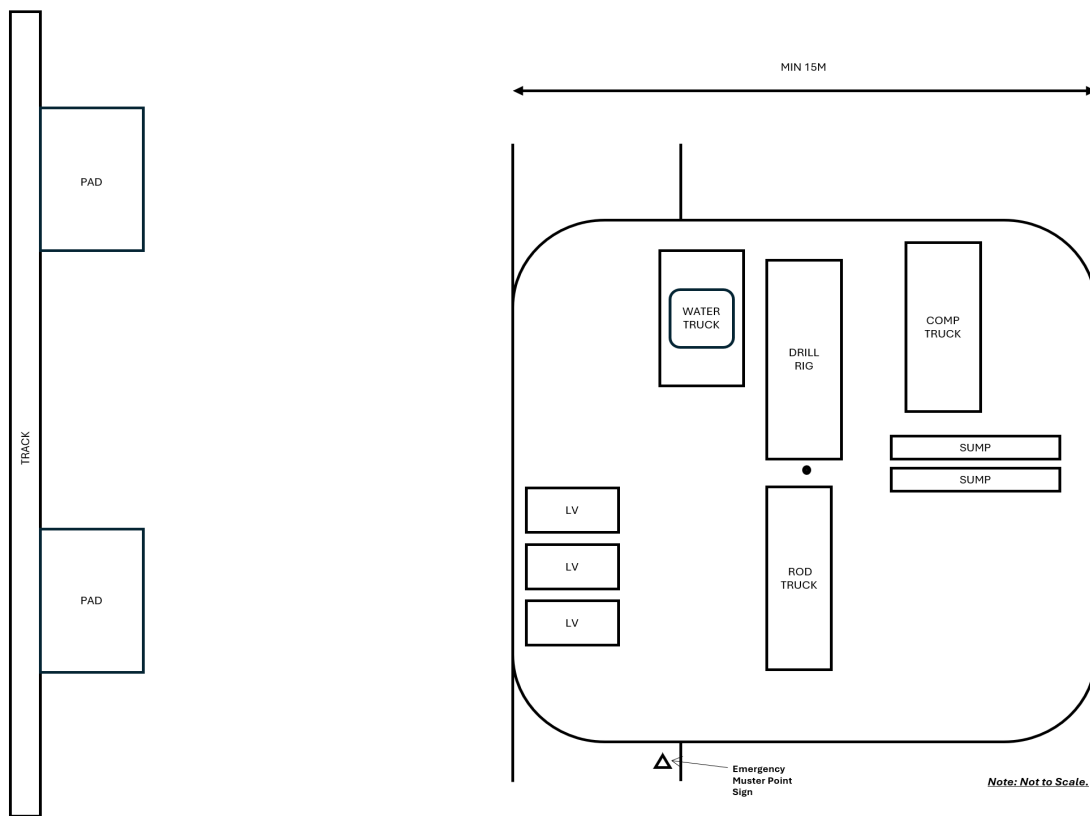

Figure 1 – Example of a Drill Pad Set-up
- An example of a functional drill site layout with a truck mounted rig and rod truck is shown in Figure 1. For a truck-mounted rig without rod handler, a good rule is to allow at least 15m X 15m for pad (including track width) in order to allow safe movement of personnel around site.